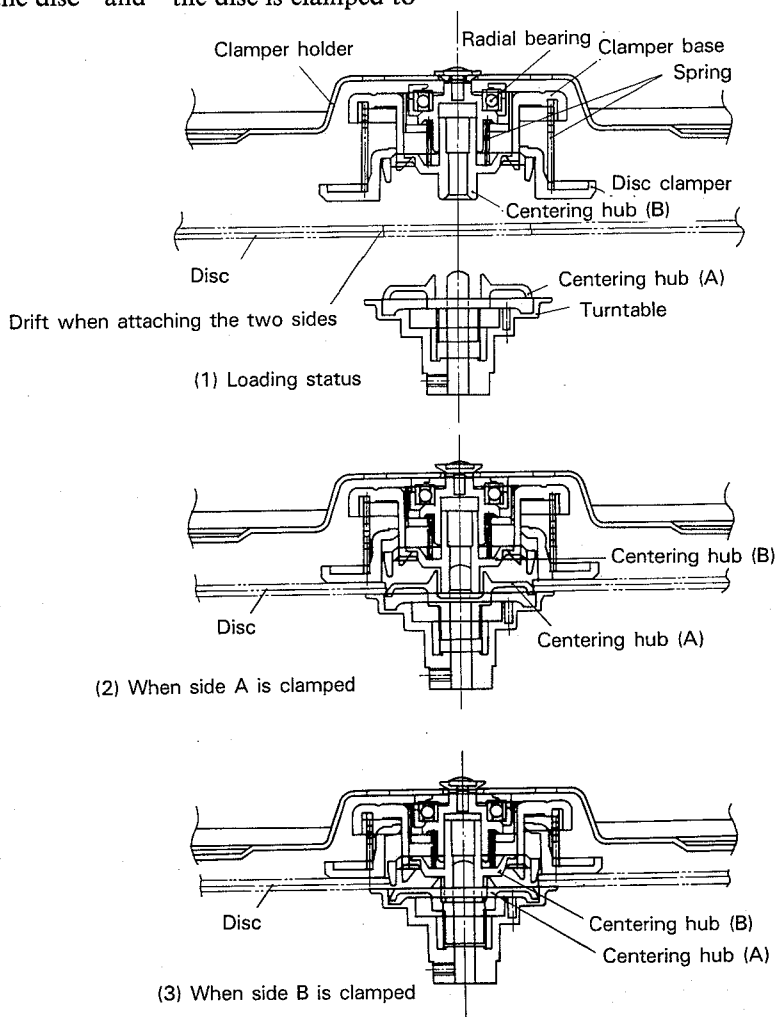

Fig. 2-2-1 Disc clamping mechanism with side A/B independent centering system
In the side A/B independent centering system, the centering hub (B) is pointed inside the disc clumper. Fig. 2-2-1 shows its structure and the operation. In status (2) when side A is clamped, in the same way as in the conventional system, the center of side A is adjusted to the center of the spindle motor by applying the tapered section of the centering hub (A) to the inside of the center hole on side A of the disc and the disc is clamped to